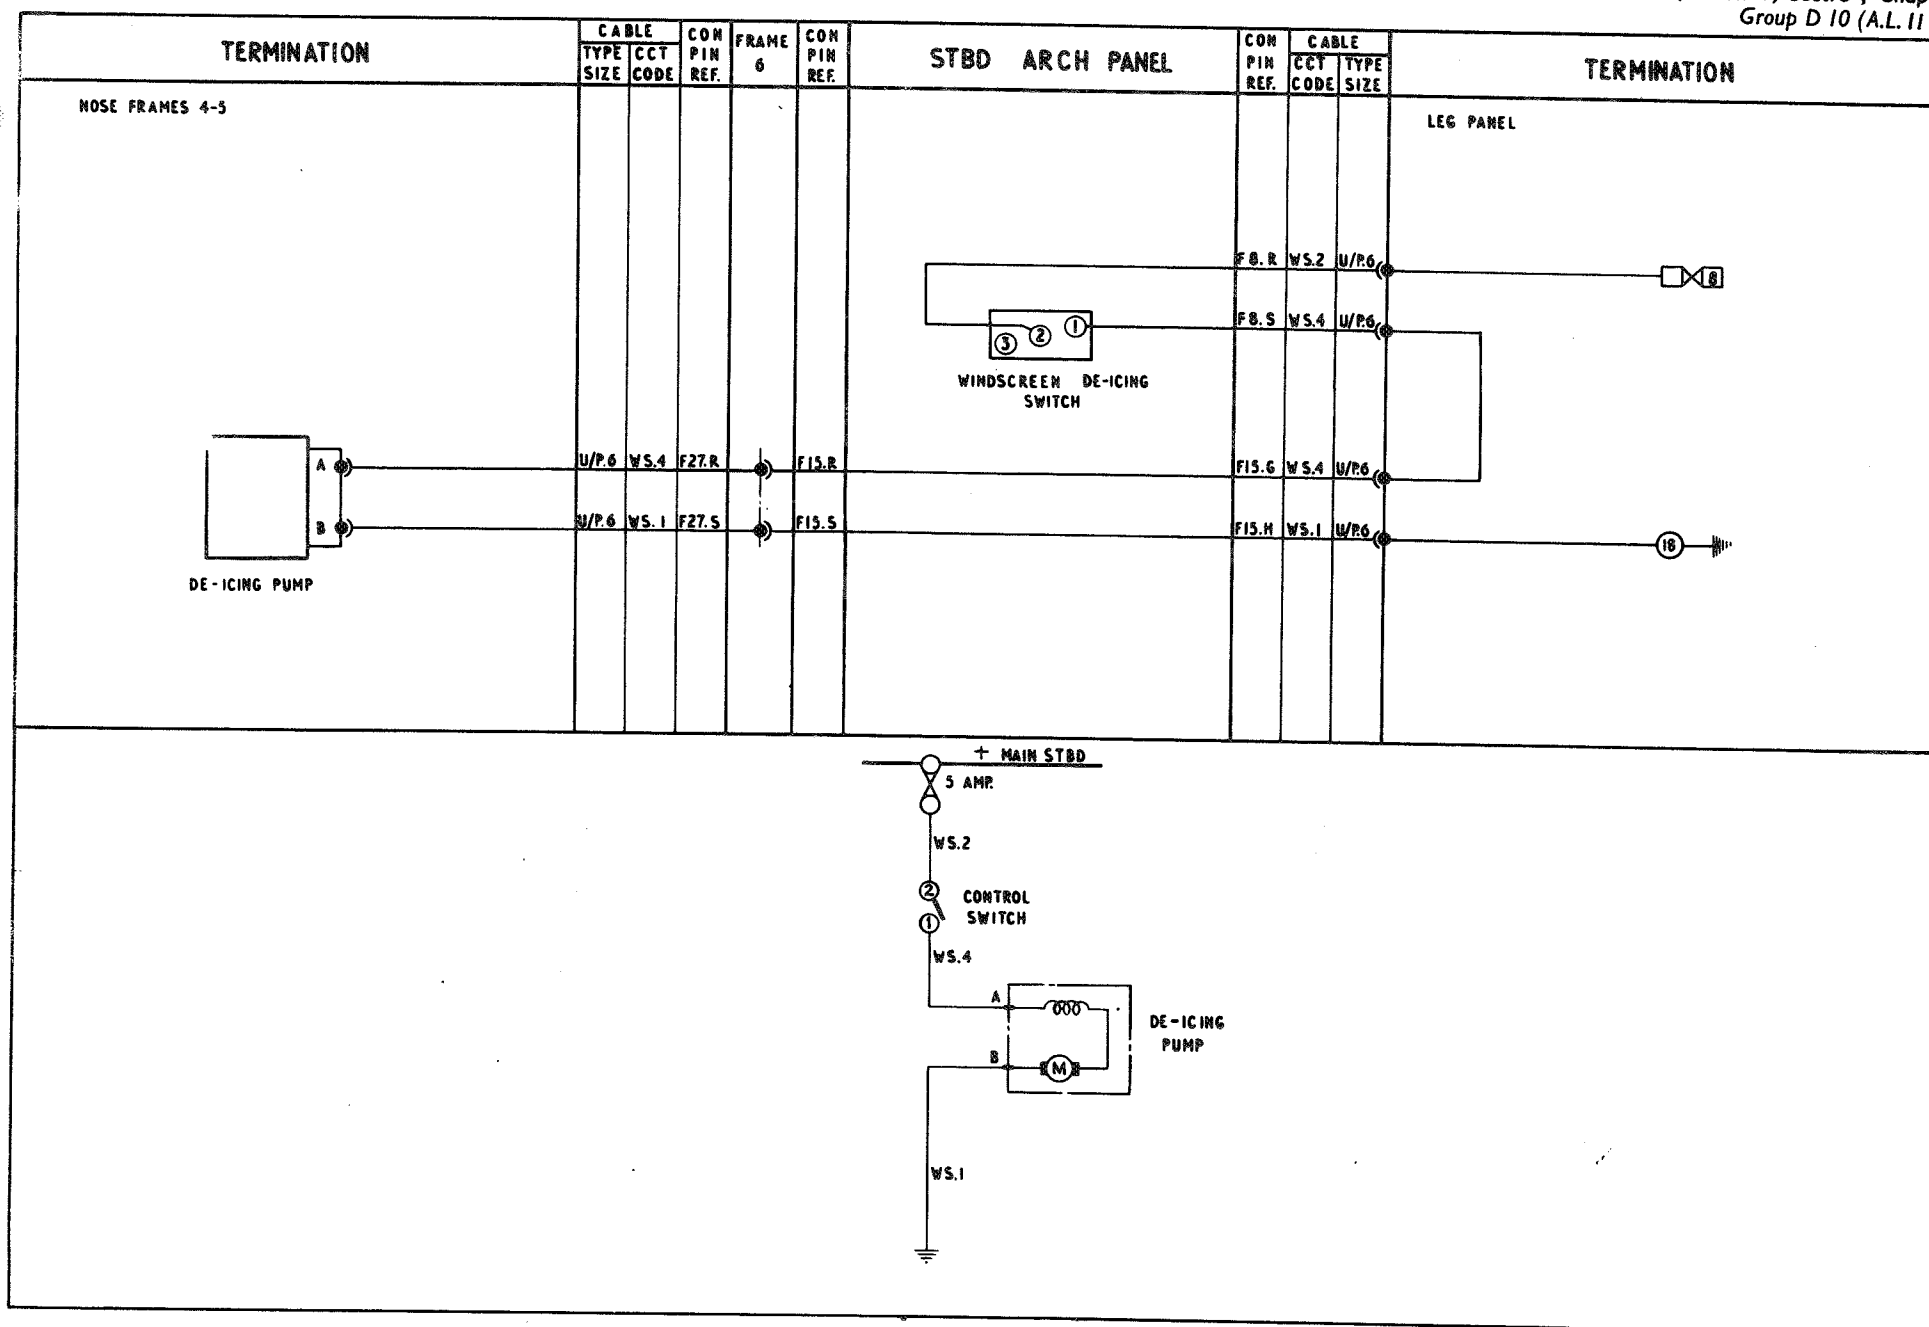

FIG. 1. WINDSCREEN DE-ICING PUMP
3. The operation of this circuit should be obvious, once reference is made to the theoretical diagram (*fig. 1*). For a description of the windscreen de-icing system, reference should be made to Sect. 3, Chap. 9.